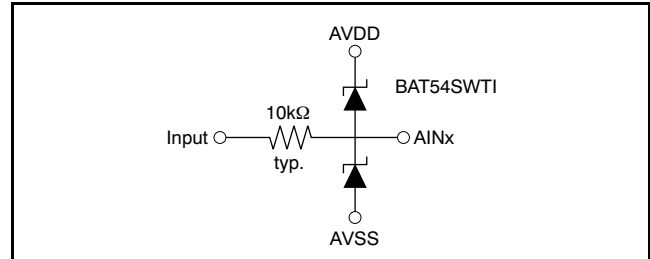

Figure 49. Input Overload Protection
- c. **Input Overload Protection:** Overdriving the multiplexer inputs may affect the conversions of other channels. In the case of input overload, external Schottky diode clamps and series resistor are recommended, as shown in Figure 49.